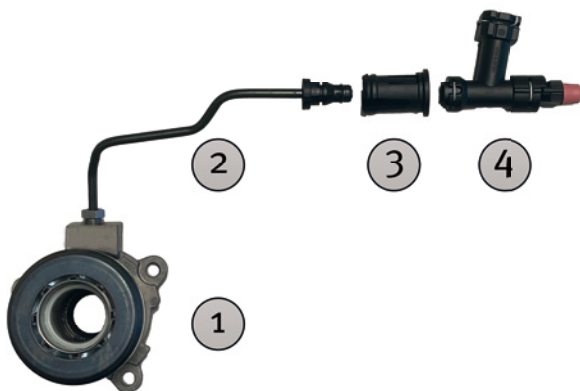

Figure 1: Remove and dispose of components correctly
**Figure 1:** Remove old concentric slave cylinder (1), connecting line (2), plastic sleeve (3) for feeding the line through the gearbox housing, and adapter (4) and dispose of correctly.